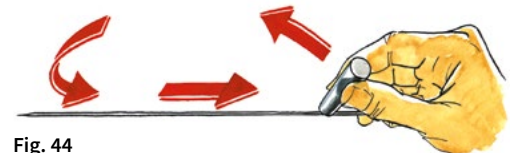

Fig. 44
1. Repeatedly sweep over the iron knitting needle or a bigger sewing needle with one pole of the magnet, as shown in fig. 44, always in the same direction. Then dip one end of the needle into some iron filings: they will be attracted to the needle, hence the needle is magnetised. An experiment can prove that the needle, too, has two poles. If suspended by a thread, it will assume such a position that one end will point towards the North and the other one towards the South.